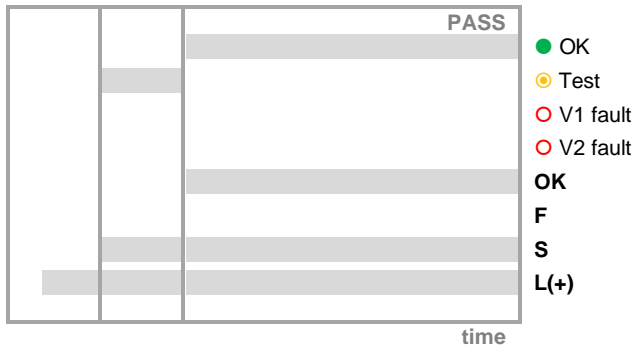
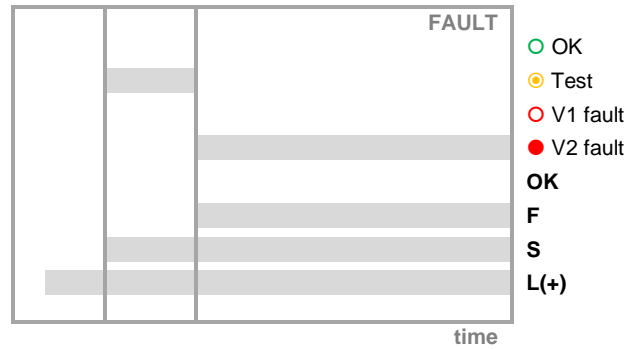

Fig.12
Fig.13
The device is switched on by applying voltage to terminal 3. When is applied the start signal (S), the test cycle starts. If the valves are tight the green LED4 is switched on and the OK signal is provided to the burner control (Fig.12). If a leakage is found on either the valve V1 or V2, the related red LED5/6 is switched on and the fault signal (F) is provided to the burner control (Fig.13)